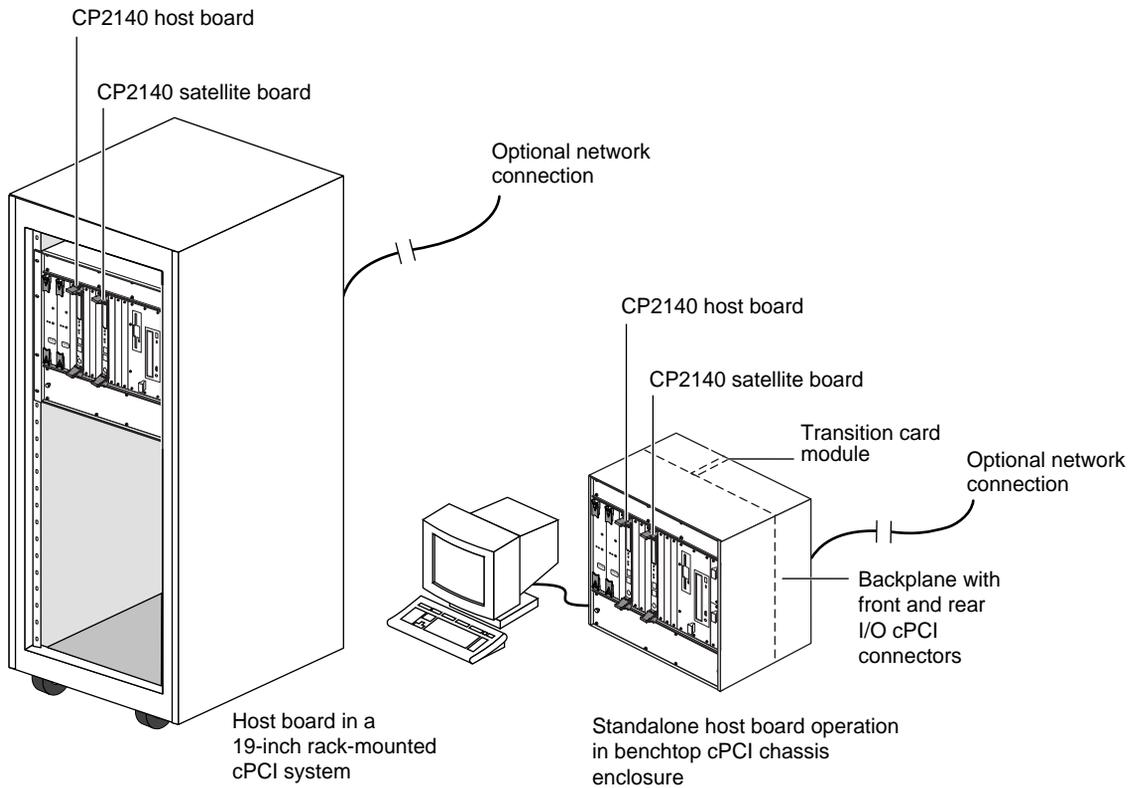

FIGURE 2-1 Examples of Netra CP2140 Board Hardware Configurations
The Netra CP2140 board can be mounted in various enclosures. It can be deployed in various electrical configurations to suit each end-user's requirements. For example, the host board can be used with a transition card and configured to boot from a network as a diskless client. Alternatively, industry-standard PMC and PIM hardware from independent hardware vendors (IHVs) can provide local disk I/O which can optionally be used as a boot path. The basic installation procedure is independent of the type of enclosure used: a floor-mounting rack, a bench-top cabinet, or some other configuration. The memory is user-configurable. See FIGURE 2-1 for Netra CP2140 board hardware configuration examples.
- CompactPCI enclosure to accommodate 6U boards, comprising: chassis, backplane, power supply. FIGURE 2-1 shows a typical configuration. See Chapter 3 “Netra CP2140 Board Specifications” to ensure that your enclosure meets the power supply and cooling requirement specifications.